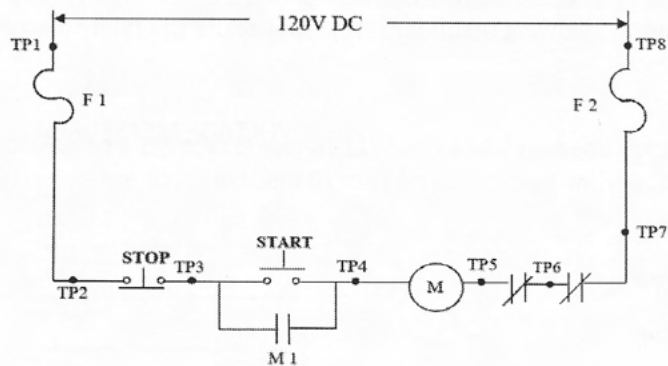

Figure 4 – Project Board
Figure 4 shows the layout of the board you will be using for this project. The points marked TP are test points, so that you can make voltage measurements. When you obtain the board from your instructor, you will notice seven (7) fault switches. With these switches all in the up position, the circuit will function like a normal three-wire control circuit. When the switch is put in the down position, one at a time, there will be faults in the circuit for you to find.